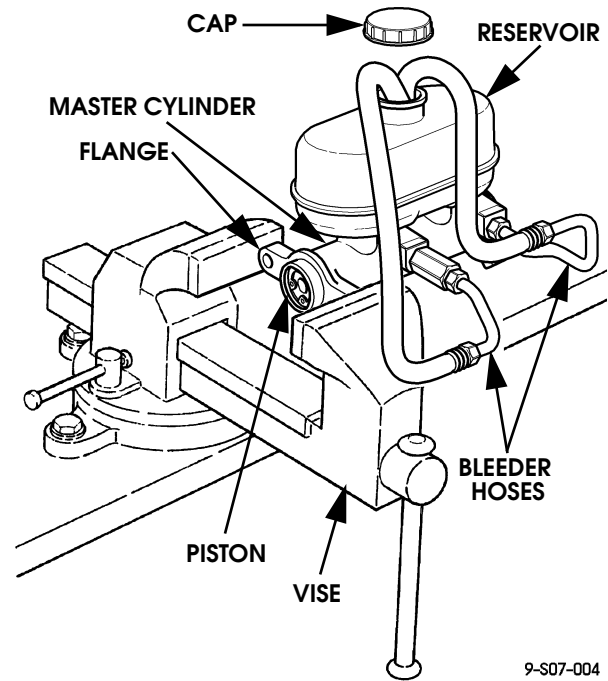

Figure 7-9: Bench Bleeding Master Cylinder
NOTE: Master cylinder must be filled and kept at least half full during bleeding operation (Figure 7-9).
3. Screw threaded end of bleeder hose into brake line port on master cylinder and insert opposite end into reservoir. Repeat step for other bleeder hose (Figure 7-9).